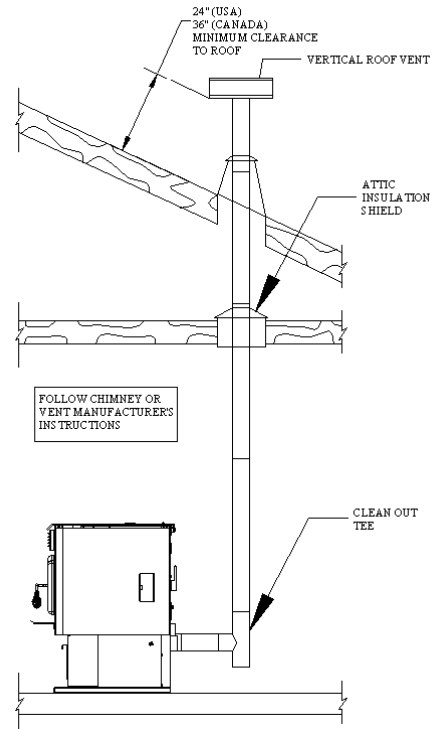

Figure 9
B. VERTICALLY WITH NEW CHIMNEY SYSTEM (Refer to Figure 9 – Venting through roof)